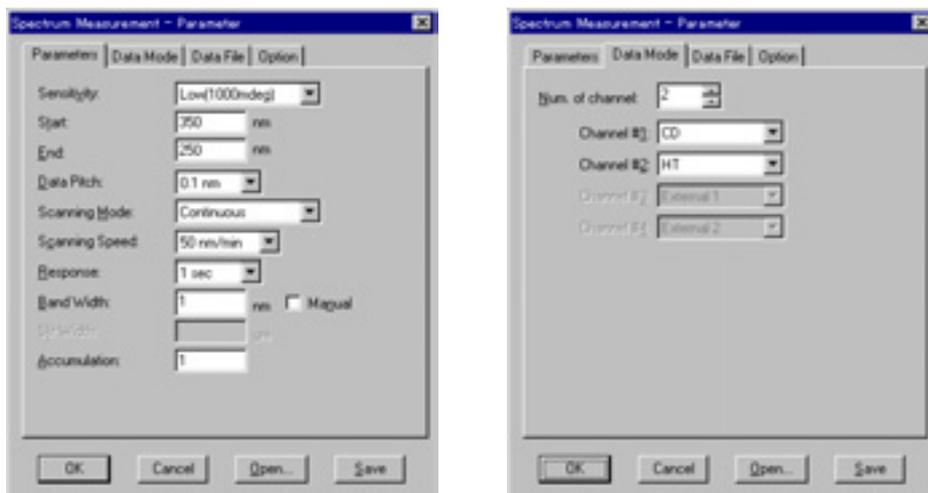

Fig. 4.11 Measurement parameters (CD scale check)
- (1) Start up the [Spectrum Measurement] program.
- (2) Select the [Parameter...] command from the [Measurement] menu, and designate the measurement parameters in Fig. 4.11.